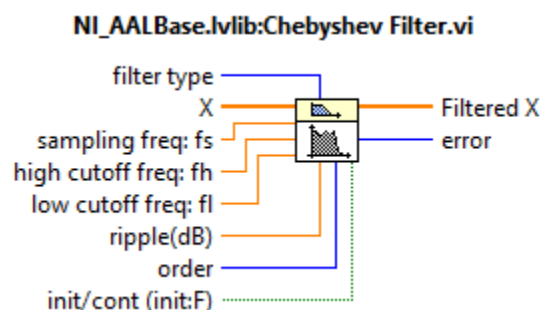

Figure 16: Chebyshev Filter
1. First you need to pass the received signal through a Band Pass Filter to remove interference from unwanted signals on frequencies near f_c . So, pass the array returned by the **Fetch Rx Data.vi** through a Band Pass Filter. Note that this array is a complex vector with Real (In-Phase) and imaginary (Quadrature) parts. Use a **Chebyshev** filter (Functions > Signal Processing > Filters) which is shown in Figure 16. Right click on the icon and enable **All Constants** from the **Create** menu and set up the filter as a fifth-order Band Pass Chebyshev filter with a high cutoff frequency of 105 kHz and a low cutoff frequency of 95 kHz. The default passband ripple is 0.1 dB which is acceptable for our case. The sampling frequency input to the filter should be the **actual IQ rate** obtained from the **Configure Signal.vi** (outside of the while loop). Place the wire connection between the output of the **Get Waveform Components, Y** and the input **X**.